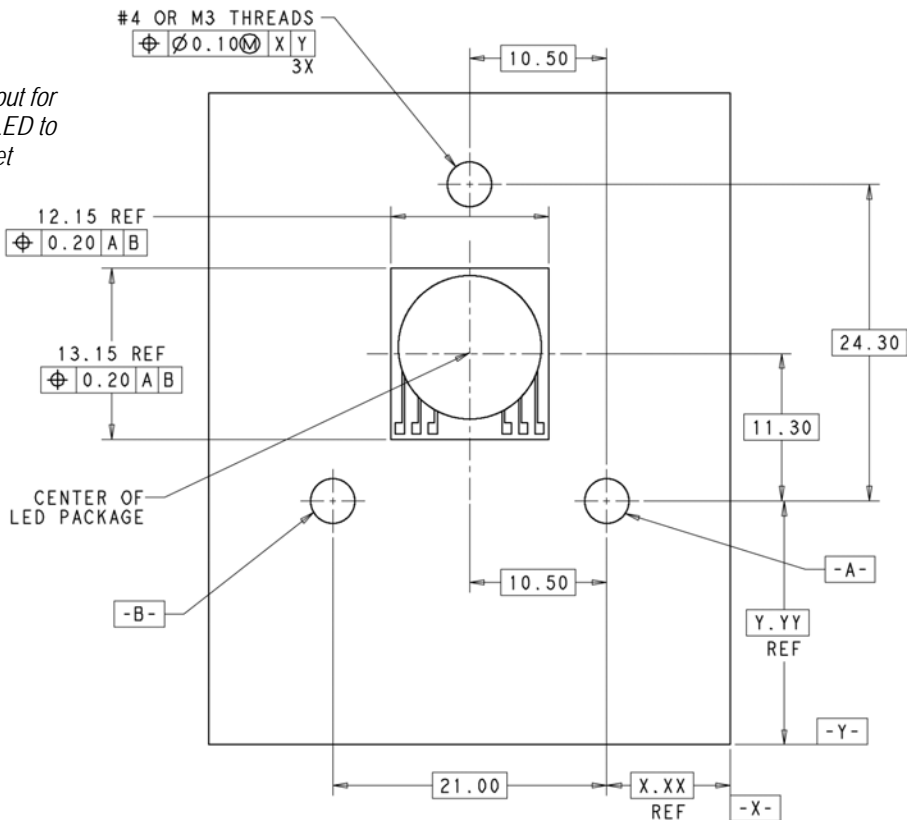

Figure 2 (Cont'd)
The mounting holes in the pc board must be precisely located to ensure proper placement and optimum performance of the connector. See Figure 2.
*Figure 2 represents a typical pc board layout for this product. For dimensions and hole pattern layout for specific product, obtain the appropriate customer drawing through your company representative or refer to the telephone numbers at the bottom of page 1.*